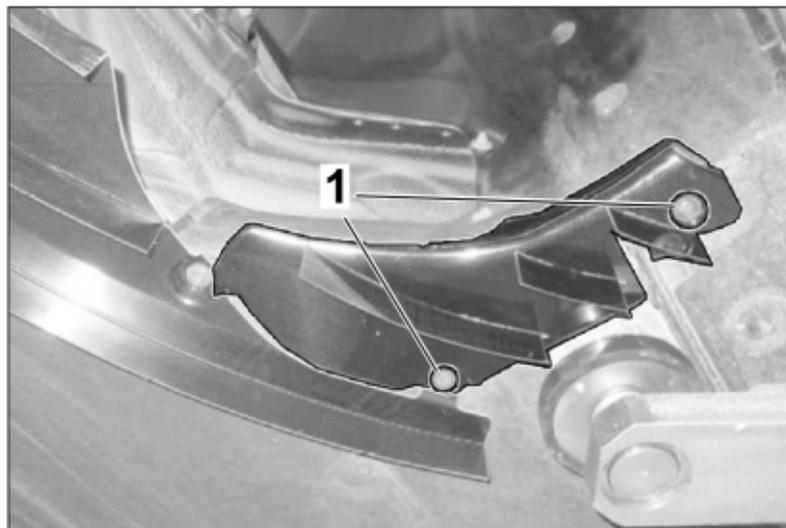

Figure 36
- 6.4.1 Mount air control element (rear 991.044.806.12) with ST4.8 x 19 tapping screws with collar (2 pcs. ⇒ *Figure 36 -1-*) on the underbody on the left side (⇒ *Figure 36*).